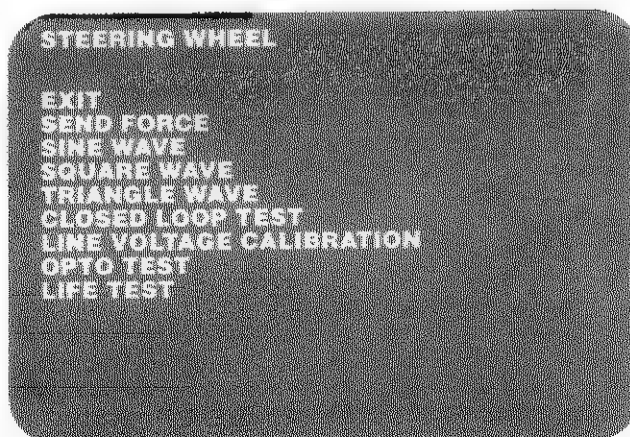

Figure 2-21 Steering Wheel Submenu Screen
- Steering Wheel* screen is explained below and shown in Figure 2-21.
Use these item if you believe you have a problem with the steering assembly or the motor amplifier assembly. The screen is shown in Figure 2-21. The section *Steering Assembly* in Chapter 3 explains how to use these tests.